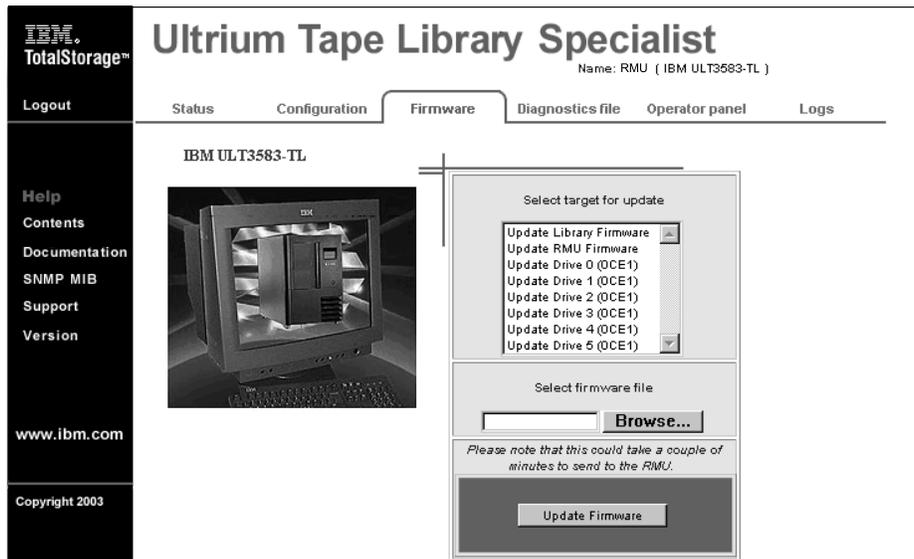

Figure 8-4. RMU firmware page
3. Use your web browser to access the TotalStorage Specialist, then select the Firmware tab (login, if necessary). The RMU firmware page displays (see Figure 8-4).